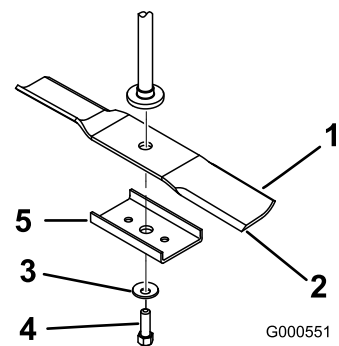

Figure 45
Hold the blade end using a rag or thickly-padded glove. Remove the blade bolt, curved washer, blade stiffener, and blade from the spindle shaft (Figure 45).
1. Install the blade onto the spindle shaft (Figure 45).
2. Install the blade stiffener, the curved washer (cupped side toward the blade) and the blade bolt (rotating it clockwise) (Figure 45).